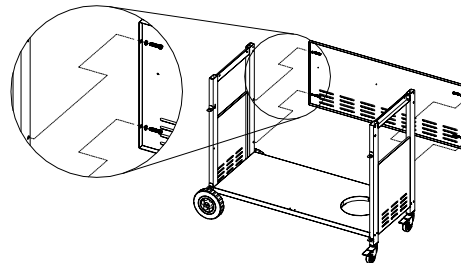

Figure 4
4. Attach the back panel to the cart legs using (4) $1/4 \times 3/5$ " Phillips head screws and (4) $\frac{1}{4}$ " lock washers. (Fig.4)